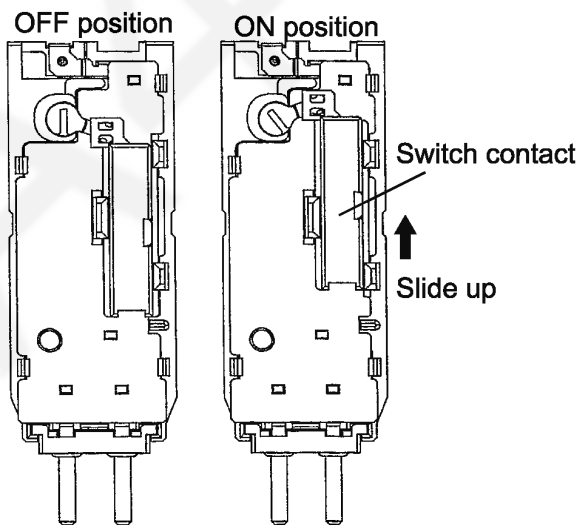

Fig.1
<p>&lt;CHECK SWITCH.&gt; Replace the battery. If there is continuity between (1) and (2) with switching ON, the switch is normal. (See Fig. 1.)</p>	NO → Replace the switch terminal plate.